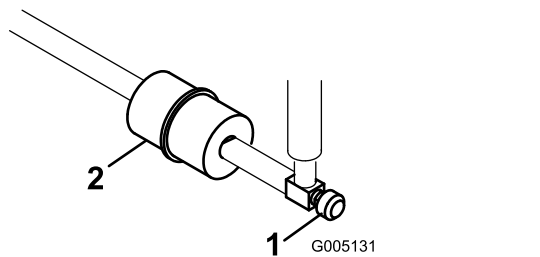

Figure 33
The in-line fuel filter is in the fuel line between the fuel tank and carburetor (Figure 33).
1. Close the fuel-shutoff valve (Figure 33).
2. Place a drain pan under the filter, loosen the hose clamp on the carburetor side of filter, and remove the fuel line from the filter (Figure 33).
3. Loosen the other hose clamp and remove the filter (Figure 33).